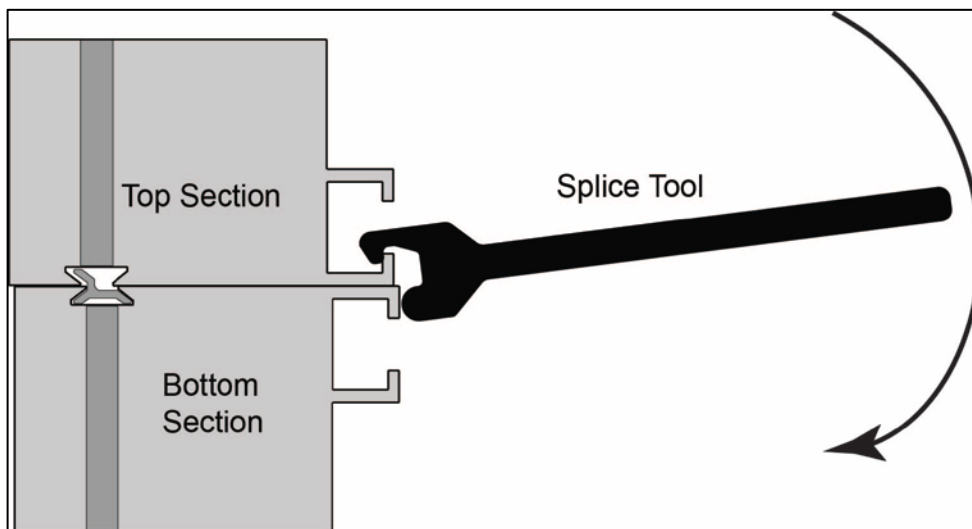

Figure 12: Pulling Display Sections Flush
5. Starting at one end of the display, insert the top lip of the splice wrench into the top section mounting channel. Refer to **Figure 12**.